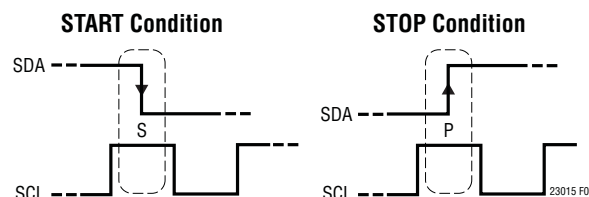

Figure 6. Timing Diagrams of START and STOP Conditions
Referring to Figure 6, a START (S) condition is generated by transitioning SDA from HIGH to LOW while SCL is HIGH. The bus is considered to be busy after the START condition. When the data transfer is finished, a STOP (P) condition is generated by transitioning SDA from LOW